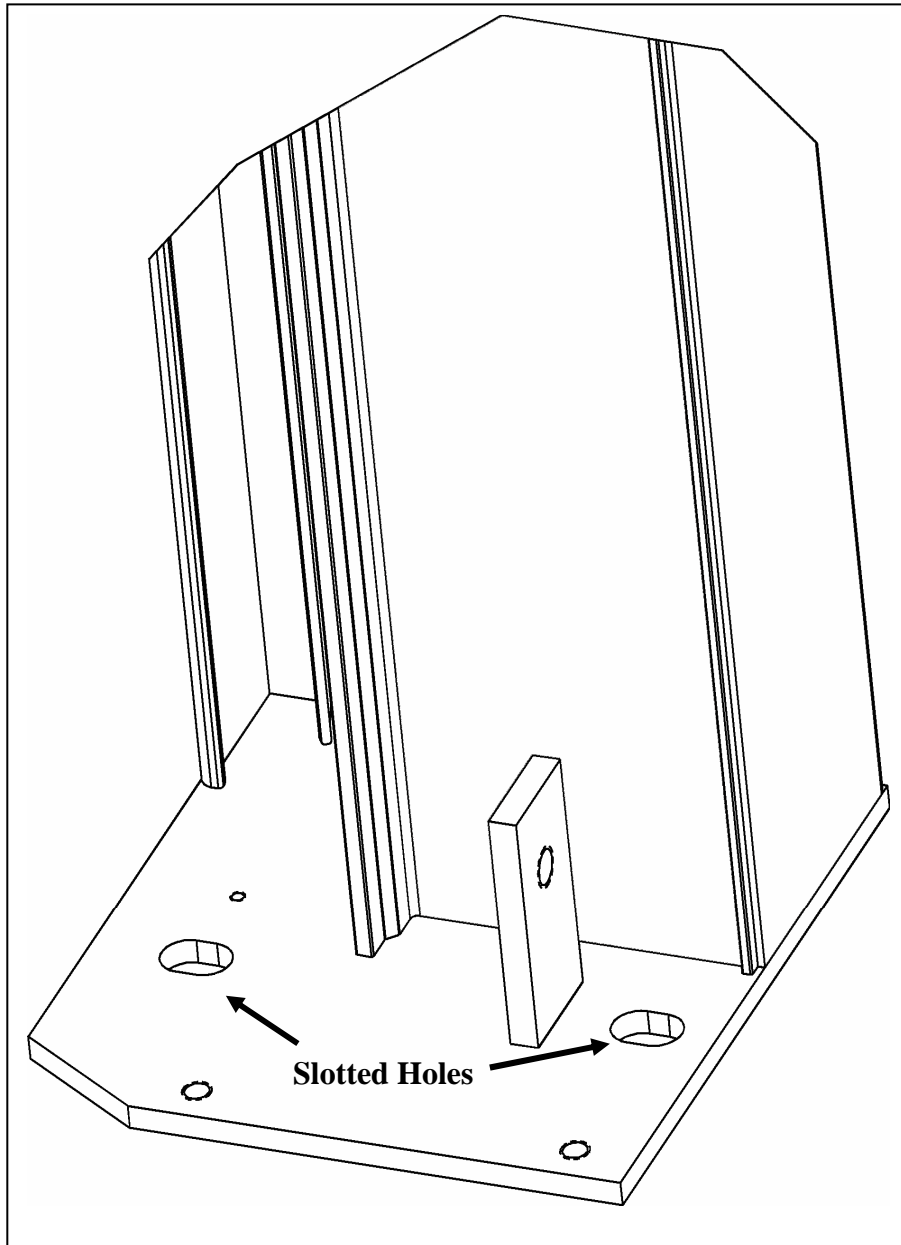

Figure 2
Step 5. Plumb both side columns and secure them to the wall using proper anchoring hardware. The anchor holes are slotted to allow for adjustment of door width and centering over the door opening. (**Figure 1 and Figure 2**)